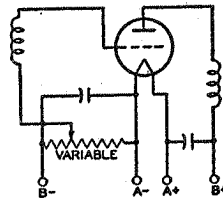
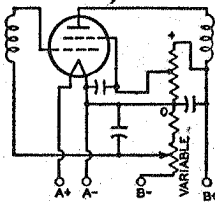

Fig. 114—Amplifier stage using a variable cathode-bias resistor for volume control.
Fig. 116—Amplifier stage using a bleeder circuit and potentiometer for volume control.
**Grid-bias variation** for the rf and af amplifier stages is a convenient and frequently used method for controlling receiver volume. The variable voltage supplied to the grid may be obtained: (1) from a variable cathode-bias resistor as shown in Figs. 114 and 115; (2) from a bleeder circuit by means of a potentiometer as shown in Fig. 116; or (3) from a bleeder circuit in which the bleeder current is varied by a tube